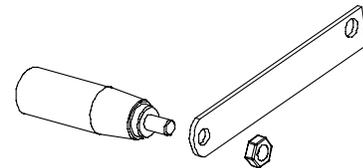

FIG 4
6. Assemble black plastic rotating handle to stainless steel lever handle as shown in fig. 4.